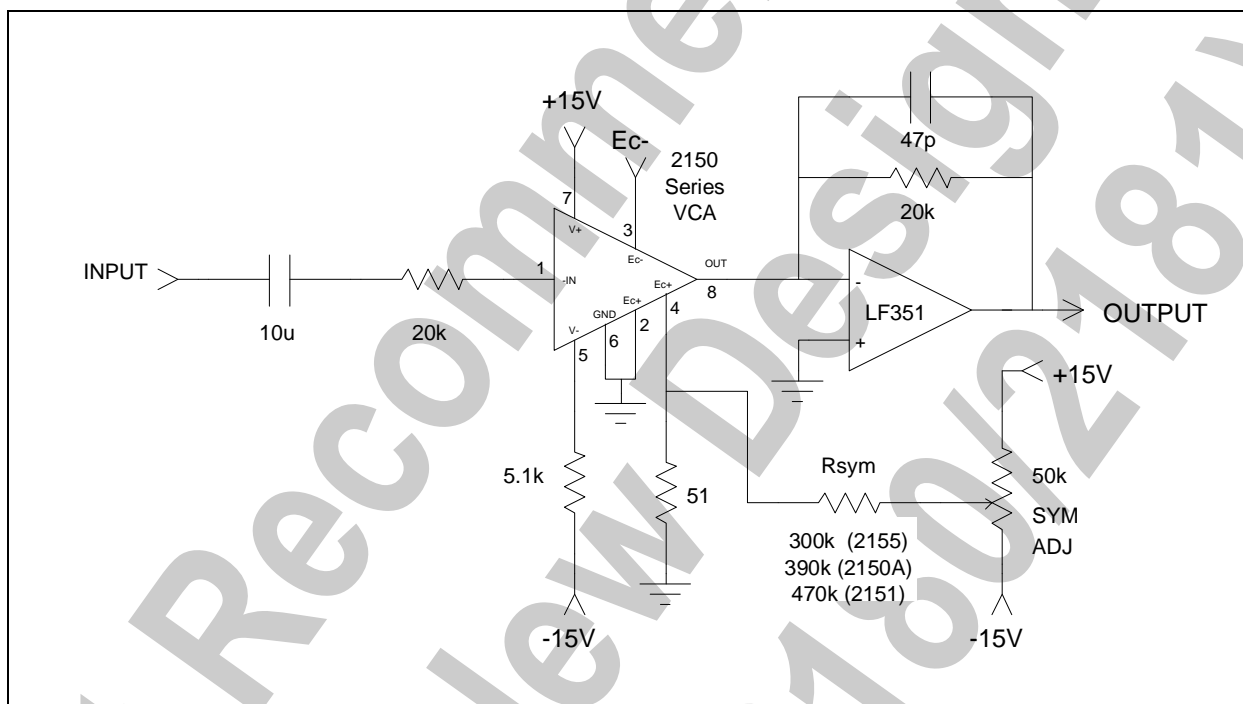
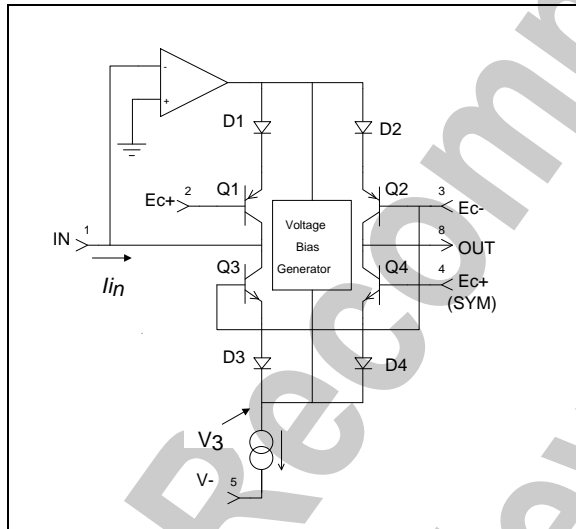
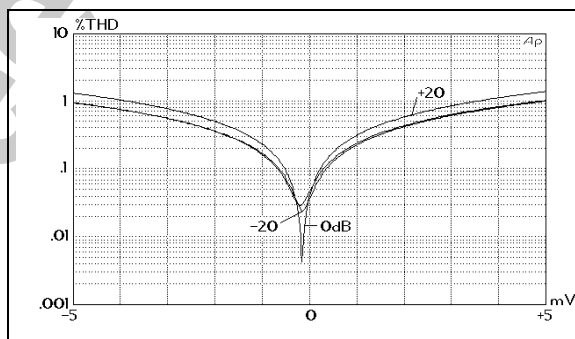
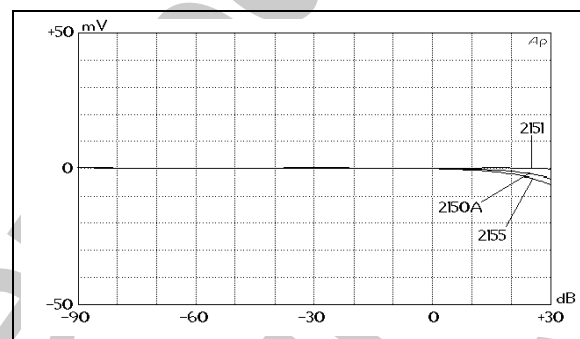

Figure 3. Typical Application Circuit
Figure 6. Simplified Internal Circuit Diagram
Figure 8. Typical THD Versus Symmetry Voltage
Figure 9. DC Offset Vs. Gain, After Symmetry Adjustment
2. Unless otherwise noted, T_A = 25°C, V_{CC} = +15V, V_{EE} = -15V. Test circuit is as shown in Figure 3. SYMADJ is adjusted for minimum THD @ Vin = 1 V, 1 kHz, 0 dB gain.
Figure 6 presents a considerably simplified internal circuit diagram of the IC. The ac input signal current flows in pin 1, the input pin. The internal op amp works to maintain pin 1 at a virtual ground potential by driving the emitters of Q1 and (through the *Voltage Bias Generator*) Q3. For positive input currents (I_{in} defined as flowing into pin 1), the op amp drives the emitter of Q1 negative, turning off its collector current, while simultaneously driving the emitter of Q3 nega-
In typical applications (see Figure 3, Page 3), pin 4 is connected to a voltage source at ground or nearly ground potential. Pin 8 is connected to a virtual ground (usually the inverting input of an op amp with negative feedback around it). With pin 4 near ground, and pin 8 at virtual ground, the voltage at the cathodes of D3 and D4 will cause an exponentially-related current to flow in D4 and Q4, and out via pin 8. A similar equation governs this behavior:
A quiescent bias current in the core transistors is established by the *Voltage Bias Generator* shown in Figure 6. This current acts like crossover bias in the output stage of a complementary class AB power amplifier, smoothing the transition between turning on the top (PNP) pair and the bottom (NPN) pair of transistors in the core. This lowers distortion greatly at some cost to noise performance, as the current noise of the core transistors (which run at approximately 20 μA) is the dominant noise source in the 2150 Series VCAs.
The monolithic construction of the devices assures relatively good matching between the paired transistors, but even small V_{BE} mismatches can cause unacceptable asymmetries in the output. For this reason, the bases of Q1 and Q4 are brought out separately to pin 2 and pin 4, respectively. This allows a small static voltage differential to be applied to the two bases. The applied voltage must be set to equal the sum of the V_{BE} mismatches around the core (*which varies from sample to sample*). Figure 3 (Page 3) includes a typical circuit to apply this symmetry voltage. R_{SYM} controls primarily even-order harmonic distortion, and is usually adjusted for minimum THD at the output. Figure 8 plots THD vs. the voltage between pins 2 and 4 (the two E_{C+} ports) for various gain settings of a typical part.
vent such dc terms, ac input coupling is strongly recommended. A plot of typical output offset voltage versus gain for the circuit of Figure 3 is shown in Figure 9. (The LF351's offset was adjusted to 0 V for this plot.)
The size of the current source at the bottom of the core (Figure 6, Page 4) is programmed externally via I_{SET} , which is normally determined by a resistor from pin 5 to V_- . The voltage at pin 5 is typically -2.7 V. I_{SET} divides into two portions: approximately 400 μ A is used for internal biasing, and the rest is available for the current source at the bottom of the core. I_{SET} should therefore be 400 μ A larger than the total of the peak input and output signal currents.
The input pin (pin 1) is a virtual ground with negative feedback provided internally (see Figure 6, Page 4). The input resistor (shown as 20 k Ω in Figure 3, Page 3) should be scaled to convert the available ac input voltage to a current within the linear range of the device. (Peak input currents should be kept under 1 mA for best distortion performance.) An additional consideration is stability: the internal op amp is intended for operation with source impedances of less than 30 k Ω at high frequencies. For most audio applications, this will present no problem.
The output pin (pin 8) is intended to be connected to a virtual ground node, so that current flowing in it may be converted to a voltage (see Figures 3, 14, & 15). Choose the external op amp for good audio performance. The feedback resistor should be chosen based on the desired current-to-voltage conversion constant. Since the input resistor determines the voltage-to-current conversion at the input, the familiar ratio of R_f/R_i for an inverting op amp will determine the overall voltage gain when the VCA IC is set for 0 dB current gain. Since the VCA performs best at settings near unity gain, use the input and feedback resistors to provide design-center gain or loss, if necessary.
symmetry voltage ($<\pm 2.5$ mV) to correct for V_{BE} mismatches within the VCA IC. For this purpose, the 2150 series devices were designed for optimum performance with an impedance of approximately 50Ω at pin 4. A trim pot is used to adjust the voltage between pin 4 and pin 2 as shown in Figure 3, Page 3. For supply voltages other than shown, scale R_{SYM} to provide the required adjustment range.